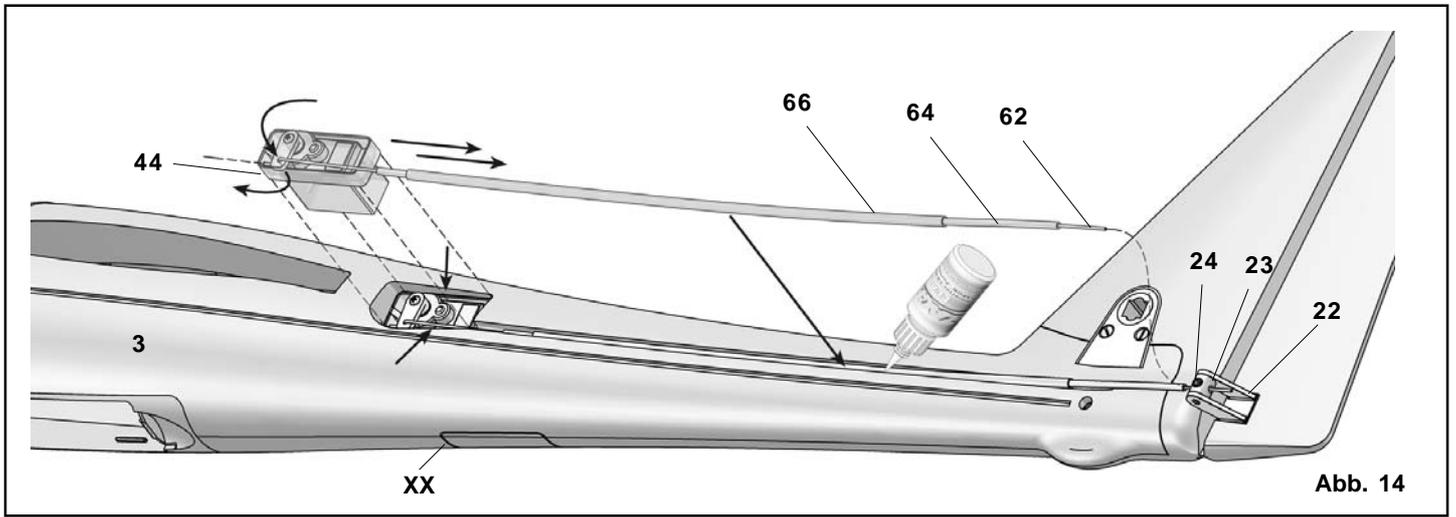

Abb. 14
3.6 Installing the rudder linkage, Fig. 14 (see also Fig. 25)